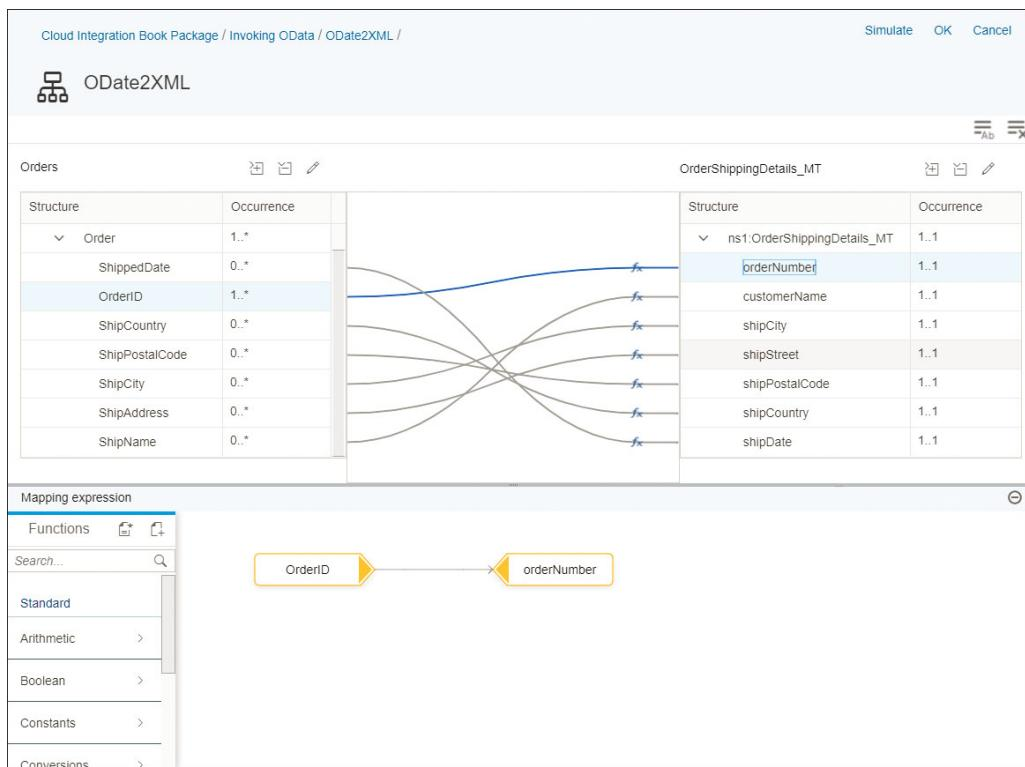

Figure 4.81 The Mapping Editor after Opening Both Structures and after Finishing the Mapping Exercise
You must pick the second entry from the list as your target message structure. Click it once, and the user interface (UI) immediately returns to the mapping editor. The mapping editor analyzes the structure of the response message and depicts it accordingly. Figure 4.81 shows the result on the right side of the screen.
The mapping editor itself should look familiar to those who have worked with SAP Process Integration before. You can now assign field mappings by simply dragging and dropping source fields from the left to the corresponding target fields on the right. We did this for our simple scenario, and the result is also depicted in Figure 4.81.
You can also benefit from several predefined functions that are shipped with the mapping editor and that are listed in the **Functions** area of Figure 4.81.
After the value mapping is deployed, it's time to use it in our mapping. For that, we need to open the mapping that we developed in Figure 4.65 (refer to Figure 4.81).